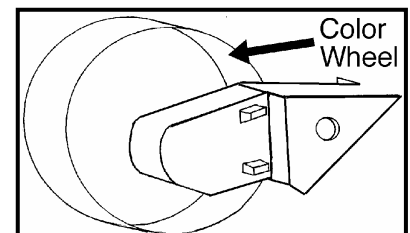
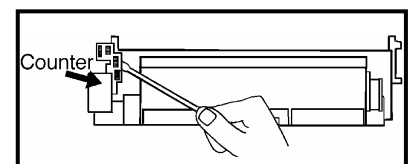

Figure 4
Figure 5
14. Notice counter on cartridge (Fig 4). Pry counter off of cartridge with small flat head screwdriver (Fig 5). Note color position of large color wheel. Once the counter is removed, separate the counter and carefully remove the second